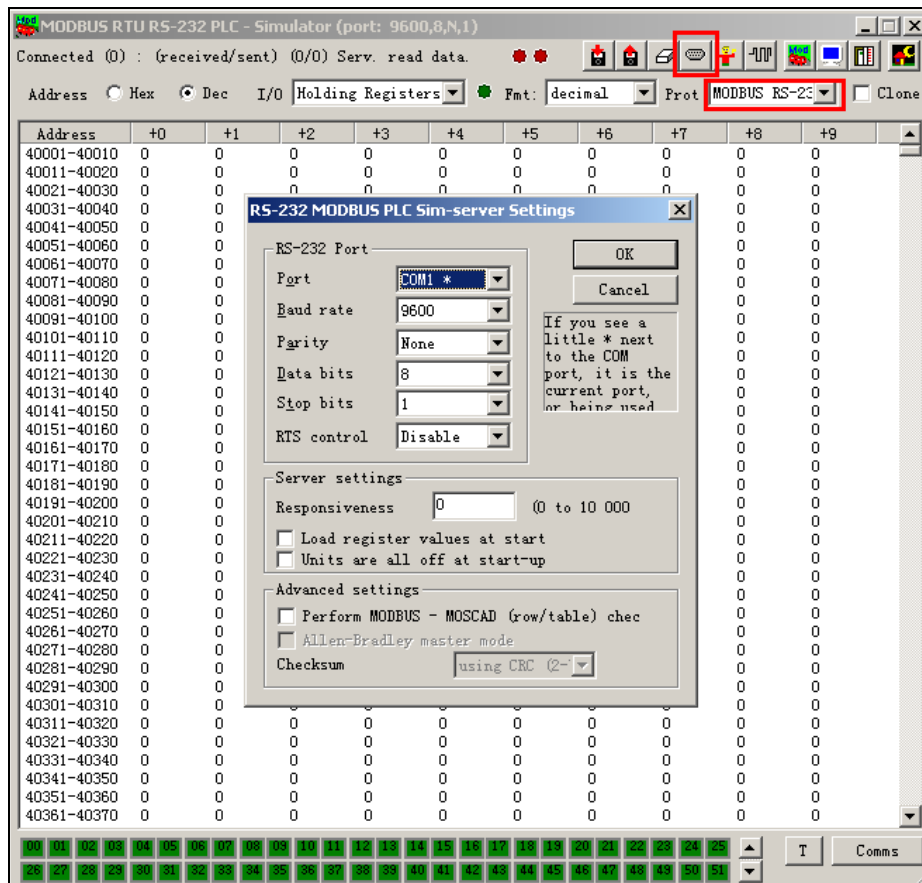

Figure 5-17 Modbus-Net-Bridge example 2
Step 3: Run the mod_RSsim.exe tool, and set correct values for **Port**, **Baud rate**, **Data bits**, **Stop bits**, and **Parity**, as shown in Figure 5-17.